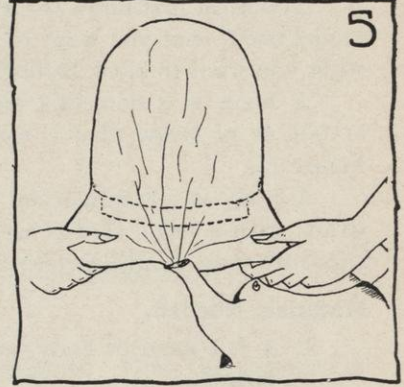

FIG. 5.
- b. Steam the felt well again and stretch and pull it down evenly all around the crown block until it is perfectly smooth on the block (see Figure 5).
- c. Before tying the cord or the tape at base of crown, read Precaution II (1) through (6).